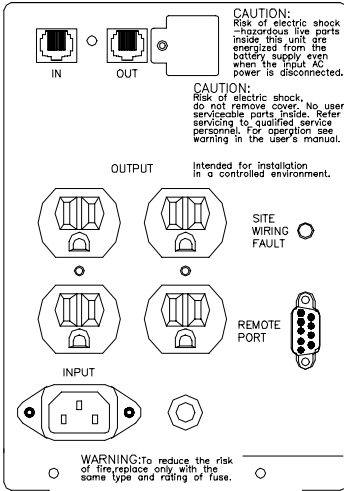

Figure 1.3
1.3.3 Tower Models: 600A, 800A, 1000A, 1500A, 2000A, 2500A, 3000A (Figures 1.3 to 1.8).